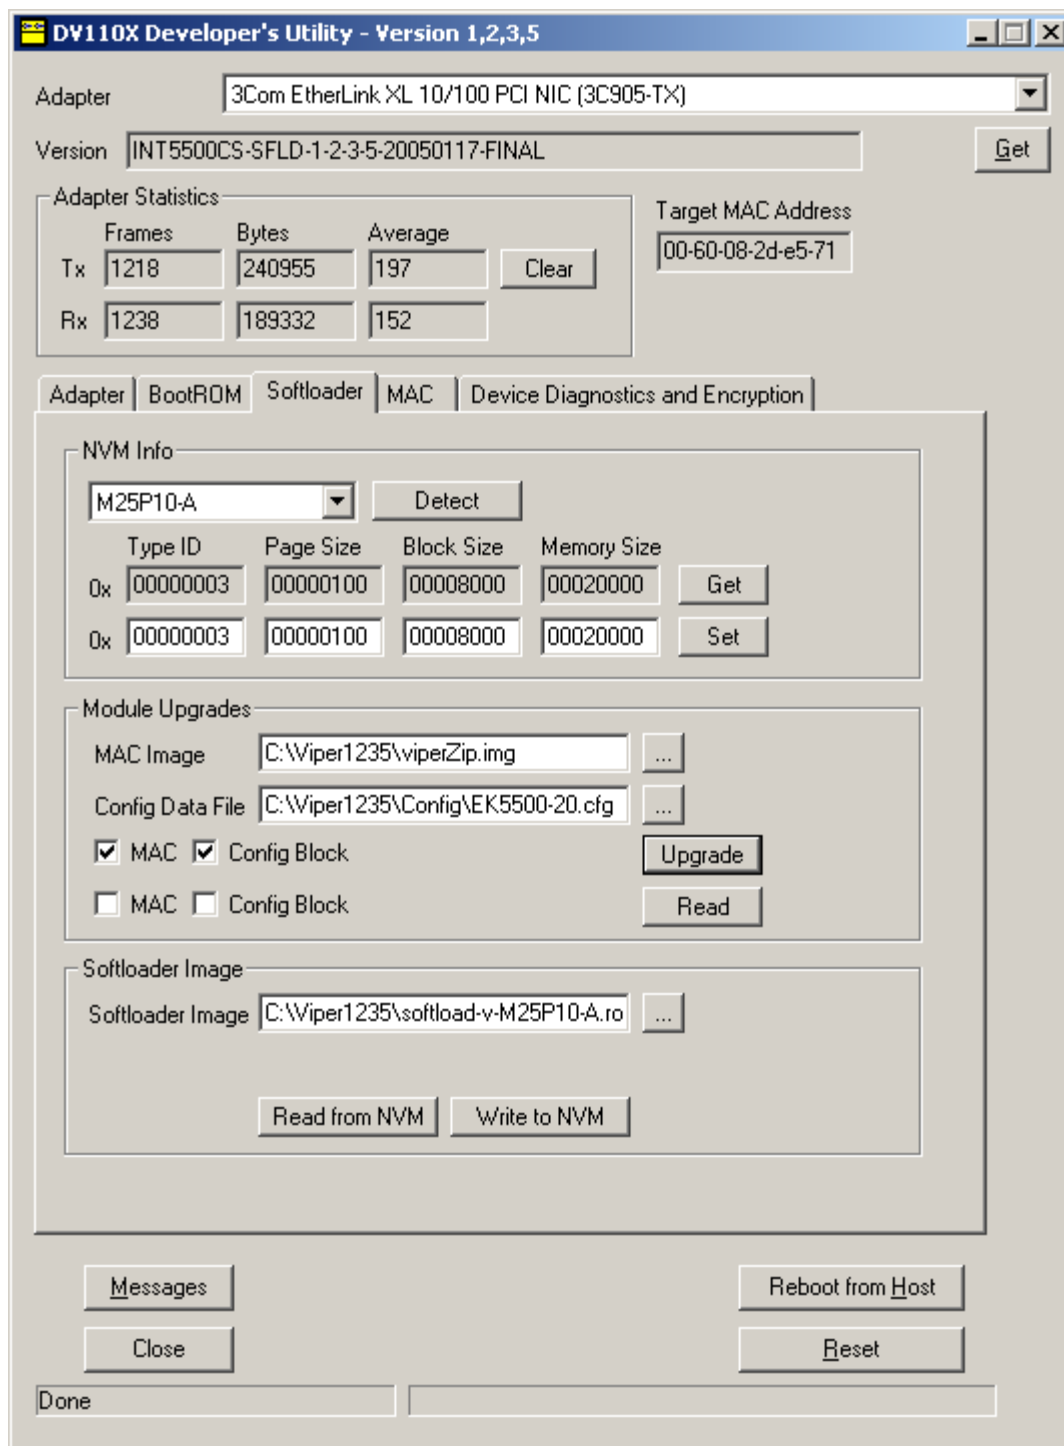

Figure 9: Softloader Page
5. Select the Softloader tab. This is shown is Figure 9.